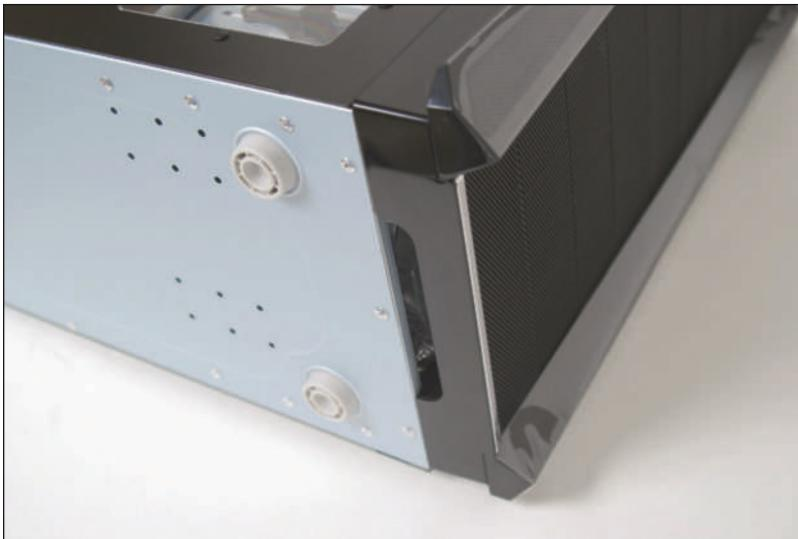

Figure 5-24 Keep a tower case off carpet to allow air to flow into the bottom air vent
8. A case needs some room to breathe. Place it so there are at least a few inches of space on both sides and the top of the case. If the case is sitting on carpet, put it on a computer stand so that air can circulate under the case and also to reduce carpet dust inside the case. Many cases have a vent on the bottom front of the case and carpet can obstruct airflow into this vent (see Figure 5-24). Make sure drapes are not hanging too close to fan openings.